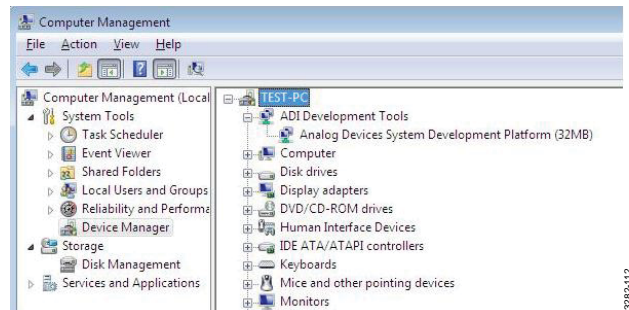

Figure 12. Device Manager
- The **Computer Management** window appears. Click **Device Manager** from the list of **System Tools** (see Figure 12).